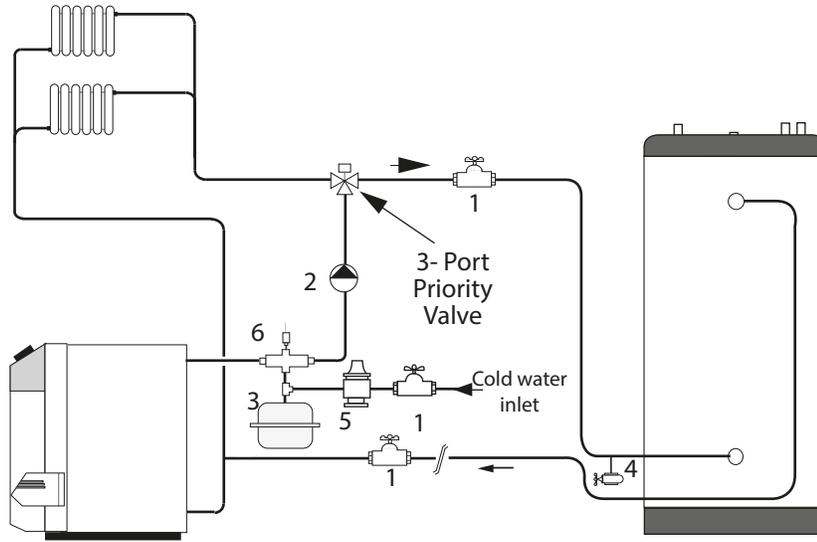

Fig. 7 - SMART System Piping with 3-Port Zone Valve (Domestic Priority)
- For Boiler water piping, refer to *Fig. 7 on page 10 thru Fig. 14 on page 13 Fig. 10 on page 11*.